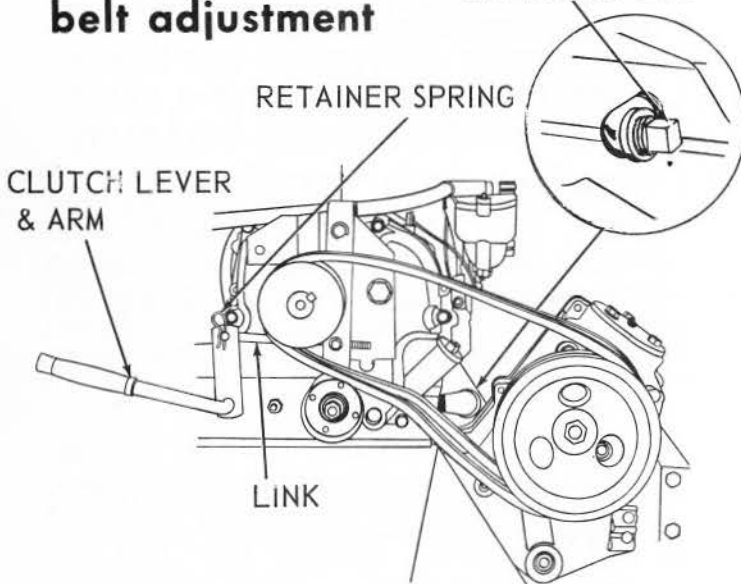

FIG. 11
10. Lift Spader with 3 point hitch. Be sure clutch lever is disengaged (lever pulled down). Refer to Fig. 11.